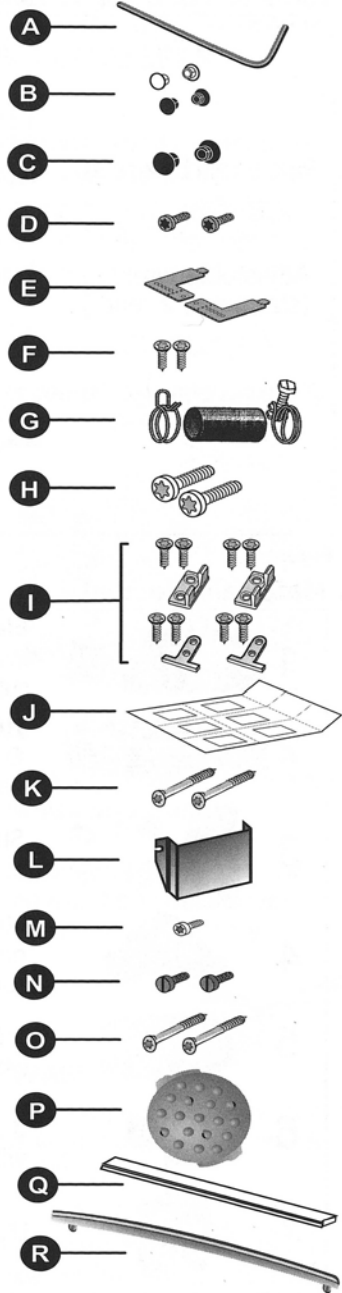

Figure 3
Accessory Parts for your model dishwasher will come in one or more plastic bags. Check to make sure that the parts supplied for your model are all there. See Figure 3. If any parts are missing contact your dealer immediately.
- Drive Mounting Screws (see Figure 3) through the holes in the brackets. See Figure 10A or 10B.